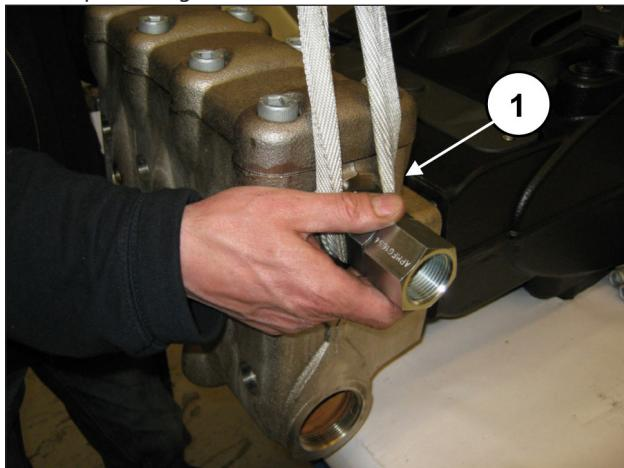
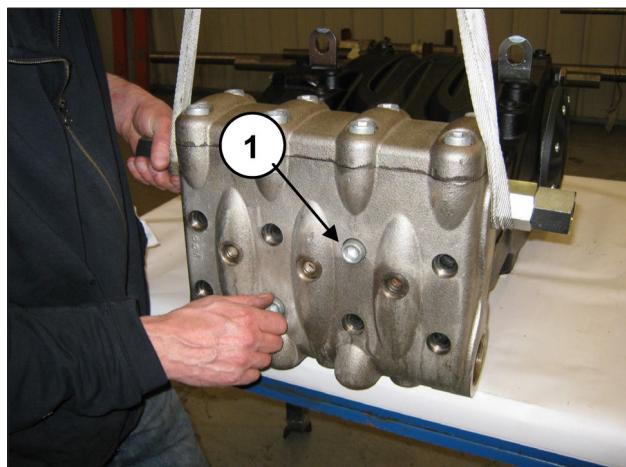

Fig. 131
Fig. 132
Assemble the head on the pump casing (pos. ①, Fig. 131) taking care not to hit the pistons and screw in the 8 M16x180 screws (pos. ①, Fig. 132).